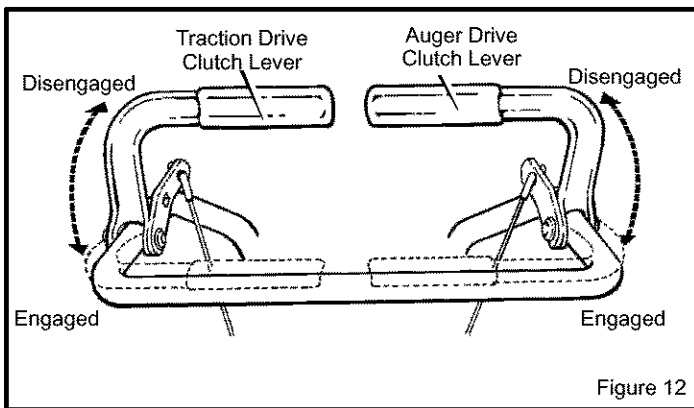

Figure 12
1. Start the engine as described in section "To Start Engine" (see Figure 12).
5. Engage auger drive clutch lever (right hand—Figure 12).
6. Engage traction drive clutch lever (left hand—Figure 12). As the snow blower starts to move, maintain a firm hold on the handles and guide the snow blower along the cutting path. Do not attempt to push the snow blower.
7. To stop forward motion, release traction drive clutch lever (left hand – Figure 12).
8. To stop auger, release auger drive clutch lever (right hand – Figure 12).